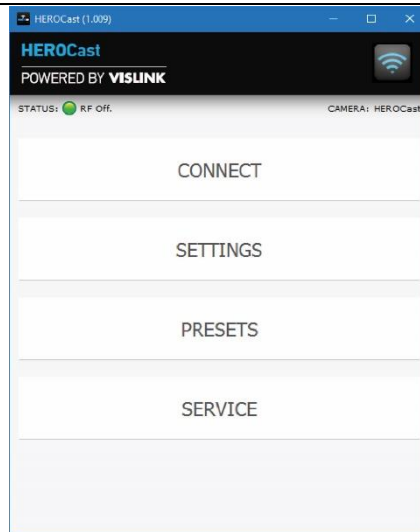

Figure 6-3 HEROCast Home Page
Figure 6-3 shows the home page, which appears when your HEROCast device is correctly connected.
1. Click **CONNECT** from the home page (see Figure 6-3).